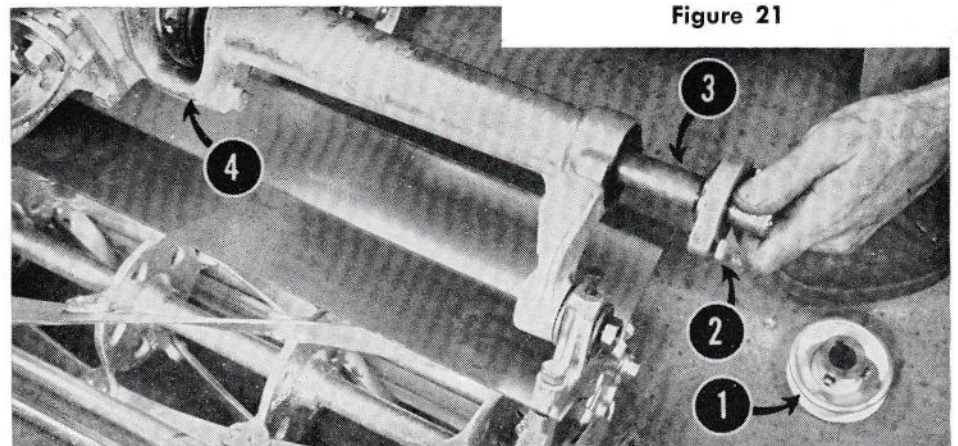

Figure 21
2. Loosen the set screws and remove the Outer Drive Pulley, 1 in Figure 21.
3. Loosen the Bearing Cap Screw, 2 in Figure 21, and pull the Outer Cross Shaft, 3 in Figure 21, out as far as possible so there is room to insert the Inner Wing Drive Pulley and Belt into the opening, 4 in Figure 21.